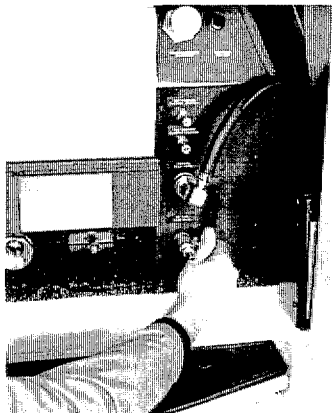

Fig. 5
6. Close chemical mix tank drain valve and allow pump-in system to refill mix tank with antifreeze premix solution. (fig. 5)